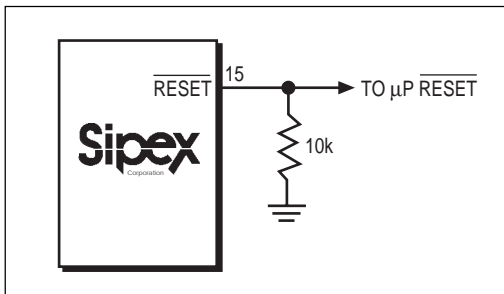

Figure 4. Adding an external pull-down resistor ensures $\overline{\text{RESET}}$ is valid with V_{CC} down to GND .
1.6mA at $\text{VOUT} - 0.5\text{V}$. When no backup battery is used, $\overline{\text{RESET}}$ output is valid down to $V_{CC} = 1\text{V}$, and an external $10\text{k}\Omega$ pull-down resistor on $\overline{\text{RESET}}$ ensures that $\overline{\text{RESET}}$ will be valid with V_{CC} down to GND as shown on Figure 4. As V_{CC} goes below 1V , the gate drive to the $\overline{\text{RESET}}$ output switch reduces accordingly, increasing the $r_{DS}(\text{ON})$ and the saturation voltage. The $10\text{k}\Omega$ pull-down resistor ensures the parallel combination of switch and external resistor is $10\text{k}\Omega$ and the output saturation voltage is below 0.4V , while sinking $40\mu\text{A}$. When using a $10\text{k}\Omega$ external pull-down resistor, the high state for the $\overline{\text{RESET}}$ output with $V_{CC} = 4.75\text{V}$ is 4.5V typical. For battery voltages greater than or equal to 2V , $\overline{\text{RESET}}$ remains valid for V_{CC} between 0V and 5.5V . $\overline{\text{RESET}}$ will be asserted during the following conditions: